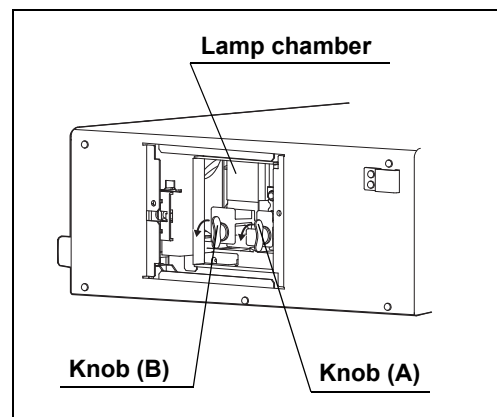

Figure 6.3
- 9** Turn knob (B) counterclockwise by 90° to loosen it. (See Figure 6.3)